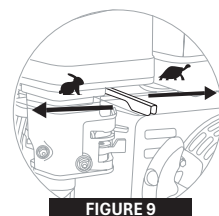

FIGURE 9
3. SETTING ENGINE SPEED (FIGURE 9)